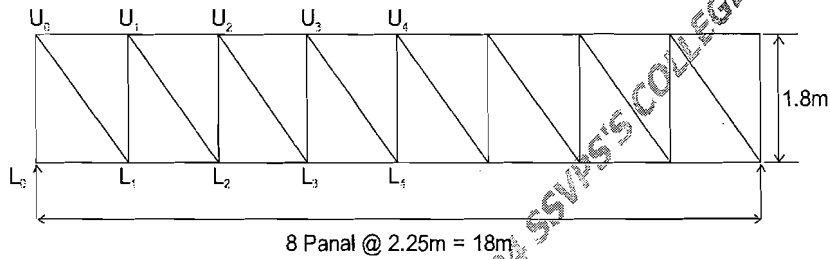

Fig : 3
8. Design a foot over bridge for the following data in Fig :3 25